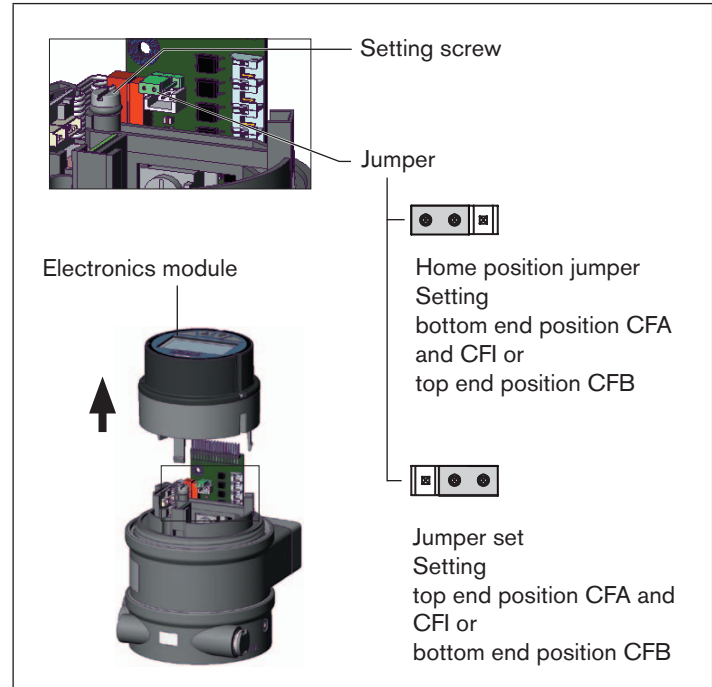

Fig. 13: Setting the proximity switches
- Set jumper (see "Fig. 13: Setting the proximity switches").
- Return jumper to home position ("Fig. 13").